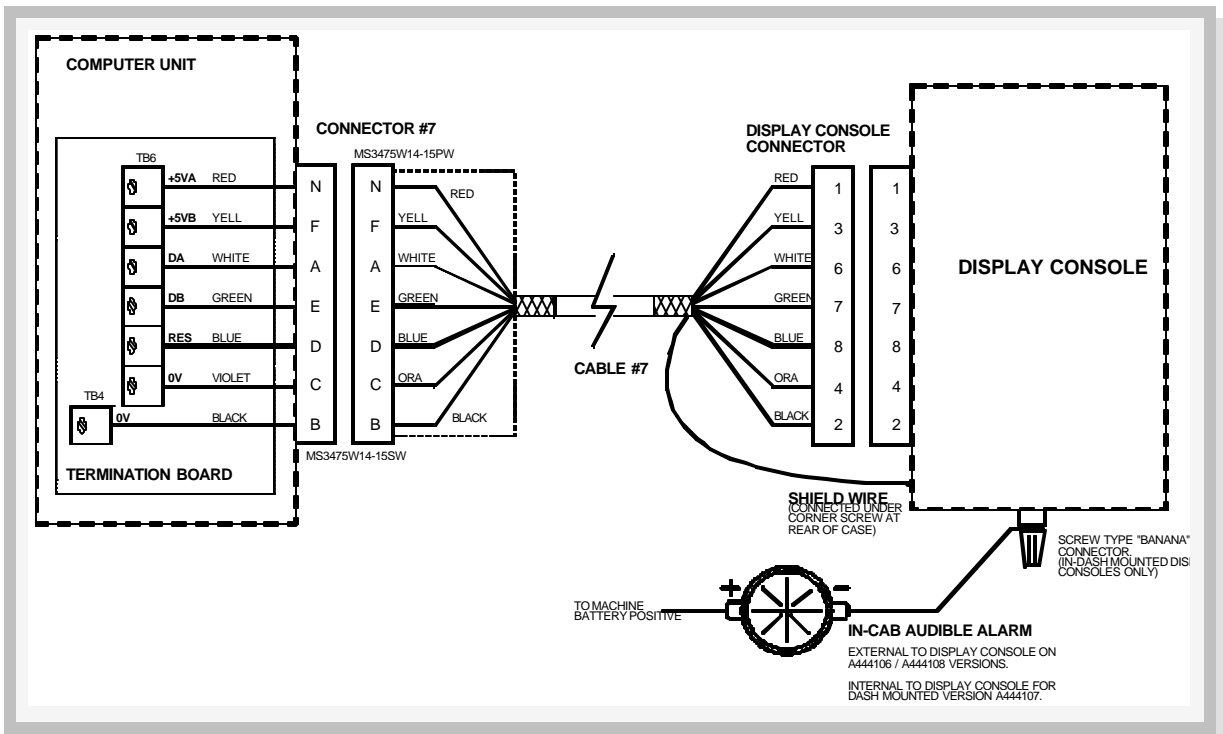

FIGURE 4.8 OPERATOR DISPLAY CONSOLE CONNECTION TO COMPUTER
2. Connect the electrical cable to the electrical connector on the rear of the Operator Display Console. Refer to Figure 4.8.